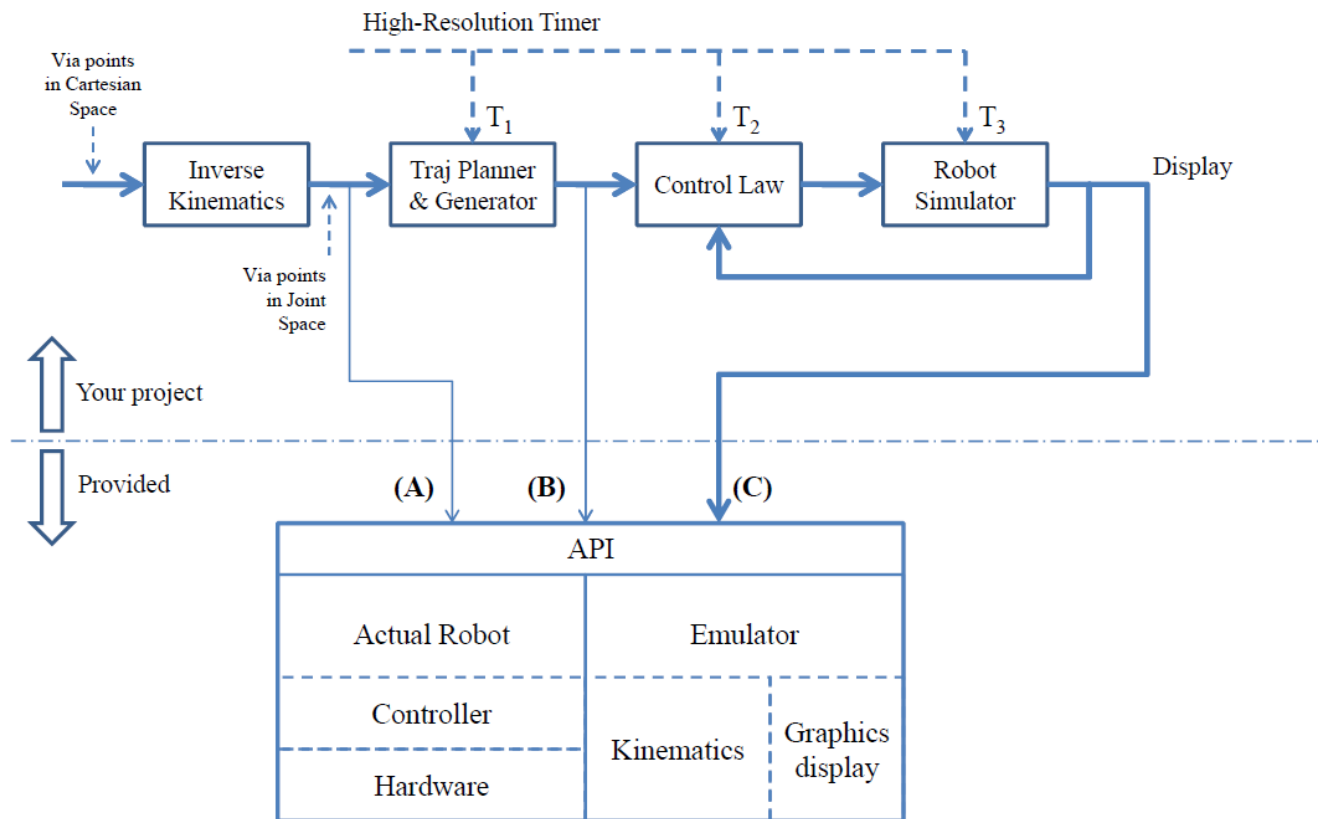

Figure 3: Block diagram of your robot programming system: ROBSIM
Integrate the above modules into a robot programming system. See Figure 3 for a block diagram of the overall system.
Hardware/emulator APIs. As shown in Figure 3, teams will be using different functions to “drive” the hardware/emulator in different demos (i.e., (A), (B) and (C)). Do make sure to use appropriate move/display command.
1. ***MoveToConfiguration(conf)*** for (A), to move the robot to a given configuration. This function will use maximum velocity and acceleration for motion and used for both hardware and the emulator.
2. ***MoveWithConfVelAcc(conf, vel, acc)*** for (B), to move the robot with desired velocity (vel) and acceleration (acc). This function is for both hardware and emulator.
3. ***DisplayConfiguration(conf)*** for (C), simply display the robot under the given configuration. This function is for emulator only.
Note: Teams must use the command corresponding to the letter at the output of the module as shown in Figure 3 to move the robot—real robot or the virtual robot (emulator).